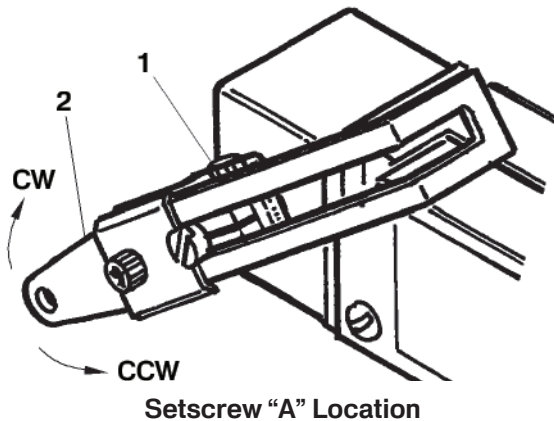

Figure 7-13
3. Loosen setscrew "A" (**Figure 7-13,1**), on the actuator arm (**Figure 7-13,2**). Reposition this arm by either rotating it clockwise or counterclockwise depending where the micro-switch clicked OFF during the conveyor flaps upward travel (**Figure 7-13**).